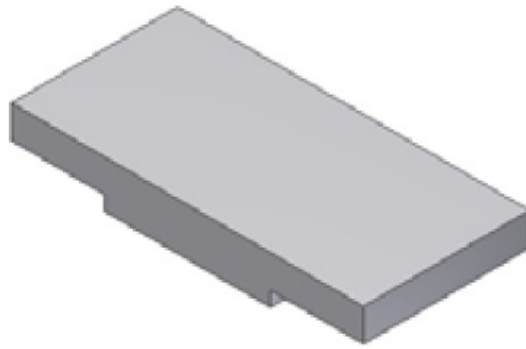

Figure 6-106 Base feature
5. Exit the Sketching environment and extrude the sketch to a distance of 102 mm using the **Extrude** tool to create the base feature. The base feature is shown in Figure 6-106.